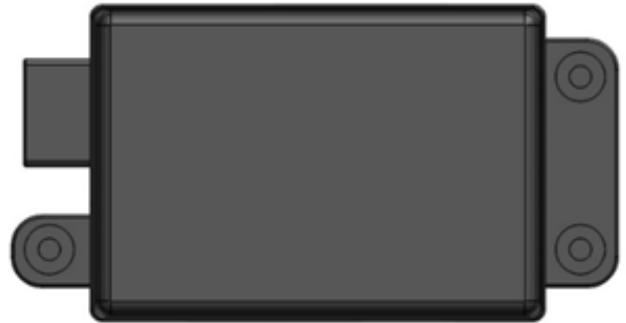
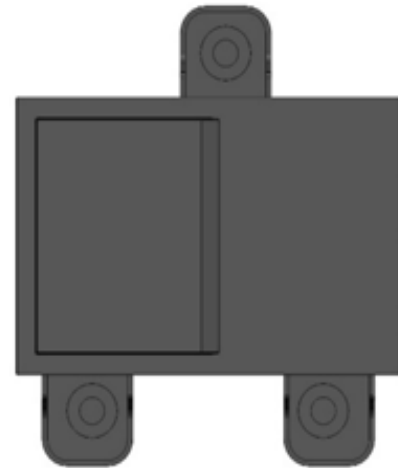

Figure 1
Figure 2
1. Note the type of Adaptive Cruise Control (ACC) sensor you have: Figure 1 shows a large ACC sensor and Figure 2 shows a smaller sensor. (Figure 1-2)